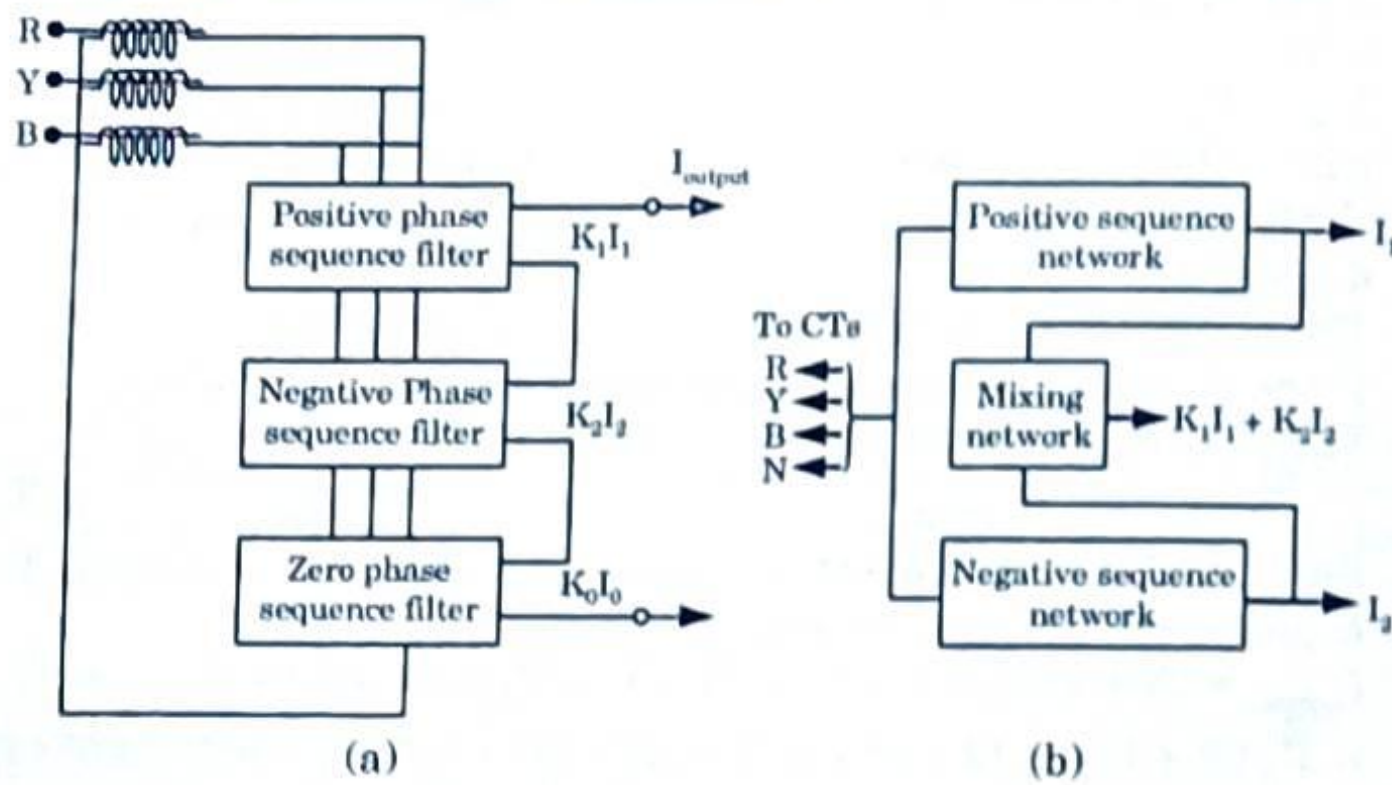

Fig. 1.13.1. (a) Phase sequence filter network
1. A simple arrangement of phase sequence current segregating network is shown in Fig. 1.13.1(a).
4. The phase-sequence filter giving an output in the form of $I_1 - K I_2$ gives the most uniform response for any type of fault. The value of K may be 5 or 6. Fig. 1.13.1(b) shows a phase sequence filter of this type.